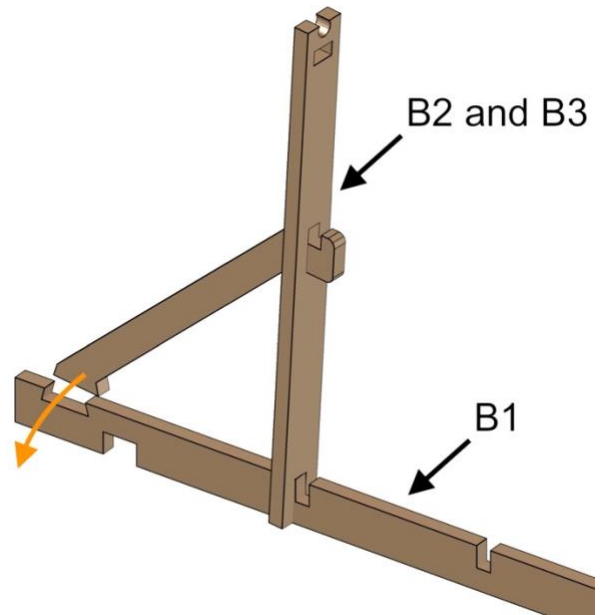

Fig. 8
- Make sure to connect the B2 piece to B1, as shown in *Fig. 8*.